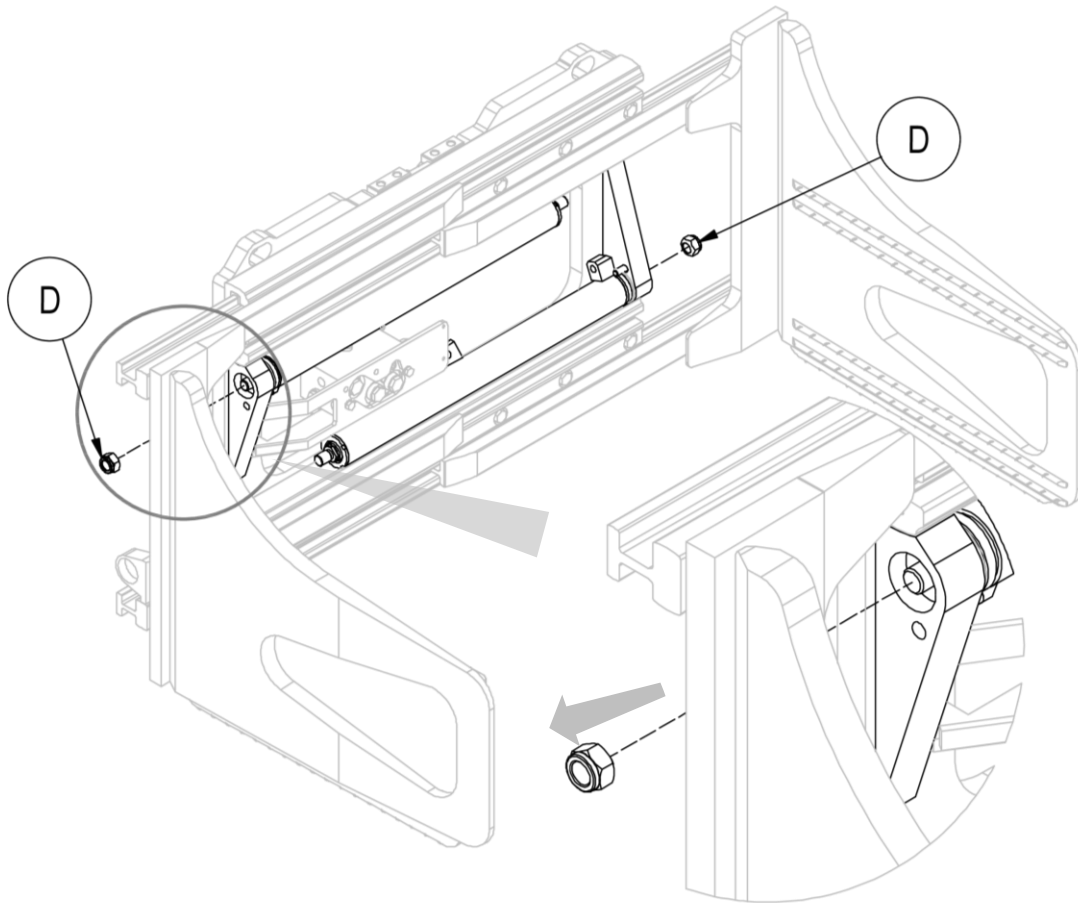

Figure 27
7. Remove the nuts D that secure the cylinders to the equipment assembly and remove the cylinders, taking care not to damage them (see *Figure 27*).